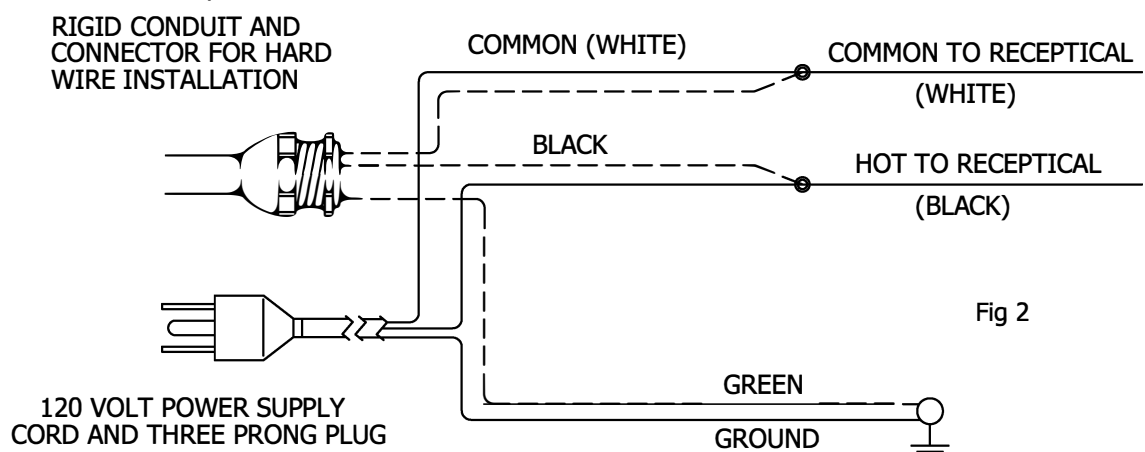

Fig 2
- Disconnect the power supply cord (solid lines from receptical) and reconnect the wires from the conduit (dotted lines from conduit) as shown in Fig.2. Conduit is to be attached through one of the 7/8" knockouts located on either side of the console. Seal connection with waterproof sealant or silicone. **CAUTION: WIRING MUST COMPLY WITH THE NATIONAL ELECTRICAL AND LOCAL CODES.**